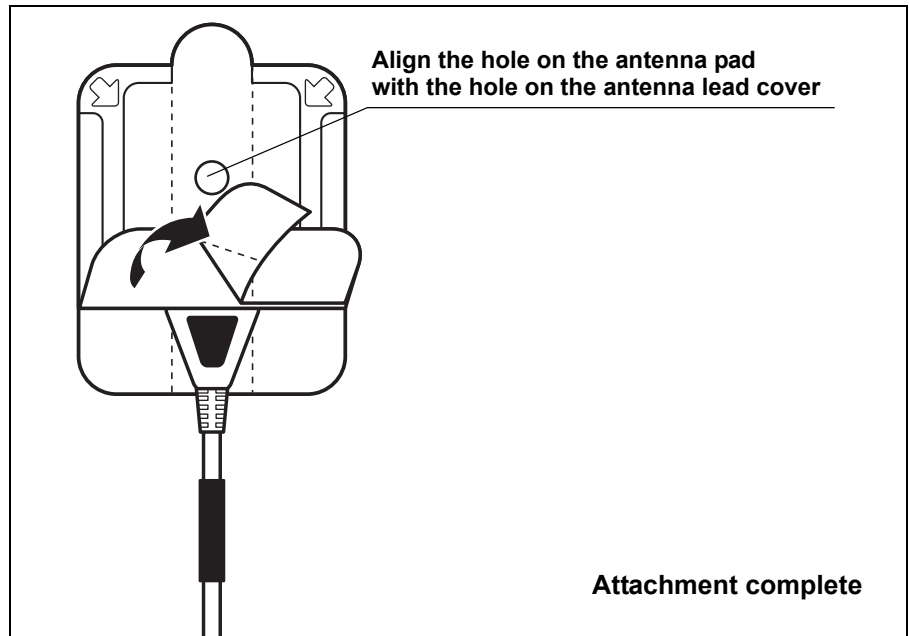

Figure 5.29
2. Align the hole on the center of the antenna pad to the hole on the center of the antenna lead cover. Peel off the lining paper from the inside of the antenna lead cover (on the blue side), and adhere the antenna pad securely to the antenna lead cover (see Figure 5.29).